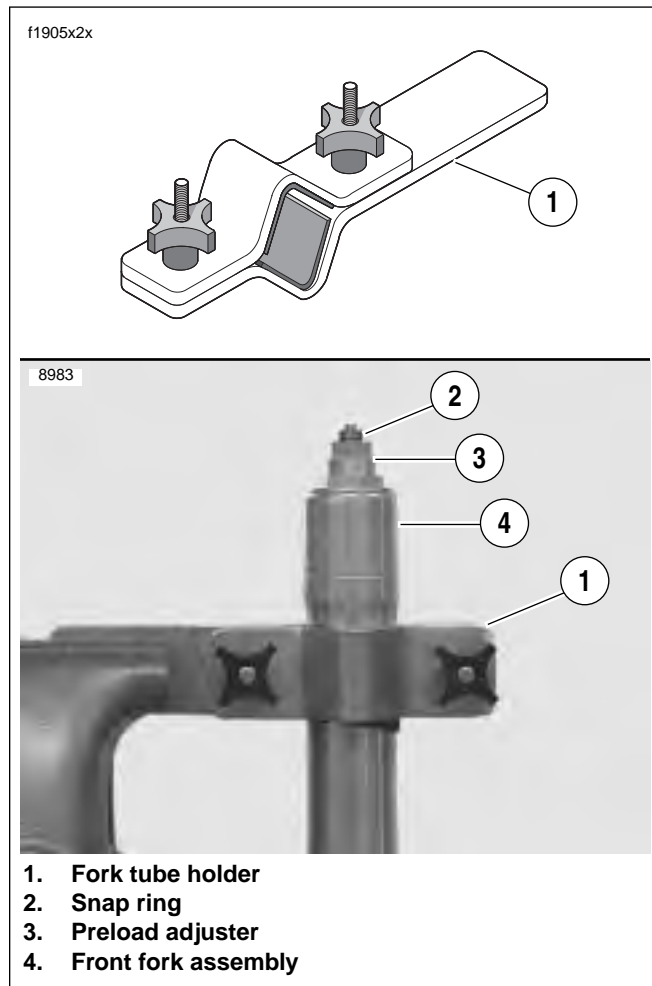

Figure 2-65. Fork Tube Holder (HD-41177)
2. See Figure 2-65. Clamp the FORK TUBE HOLDER TOOL (1) (Part No. HD-41177) in a vise and install the upper part of the front fork in the holding tool.
3. Remove snap ring (2).